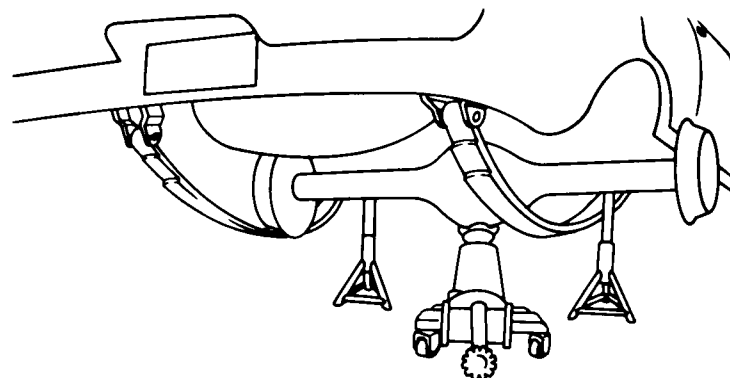

Fig. 25
7. The rear axle is mounted by sliding it in from the side through the space above the spring (Fig. 25). Set the lower spring seat in the proper position and attach the axle to the springs with the stock U-bolts. The rear axle should be "aimed" straight ahead to insure that the wheels will be equally displaced off the car centerline. Note: A limited slip (clutch type OK) 3rd member should be used.